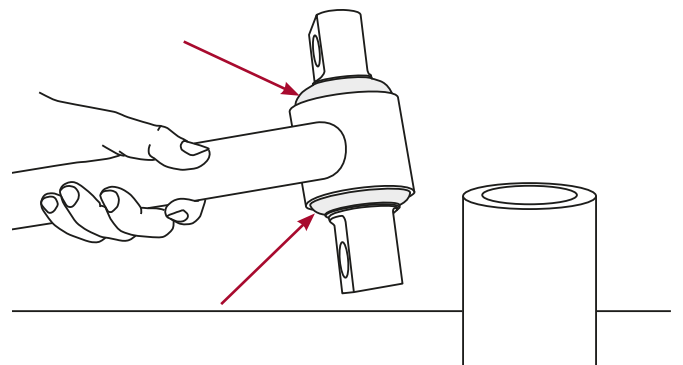

Figure 64: Final Centred Bush Position
6. Press the inner metal of the bush assembly again from opposite side to centre the bush and inner metal within the torque rod end tube. Refer Figure 64.